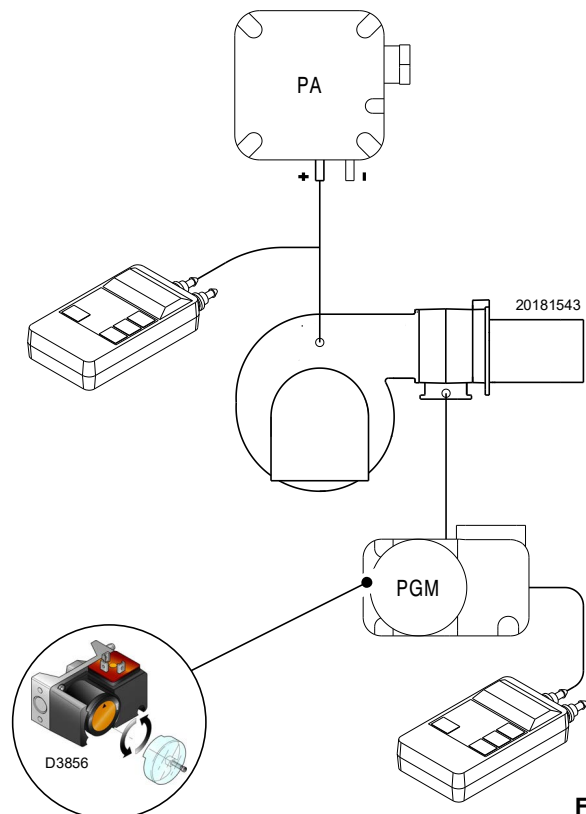

Fig. 33
- Adjust the high gas pressure switch to the upper limit of the scale (Fig. 33 on page 30).
Adjust the maximum gas pressure switch (Fig. 33) after making all other burner adjustments with the maximum gas pressure switch set to the end of the scale.